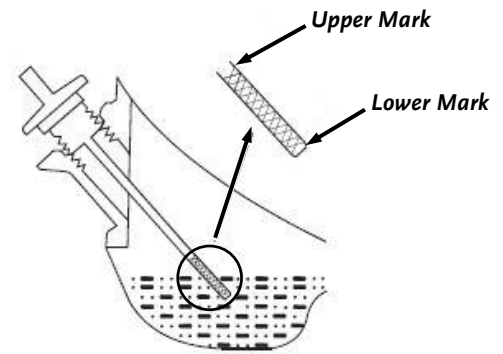

Figure 4
- 3) Fill With the recommended Engine Oil and check Oil level with dipstick (*Figure 4*).
- 3) Fill With the recommended Engine Oil and check Oil level with Dipstick (**Figure 4**).